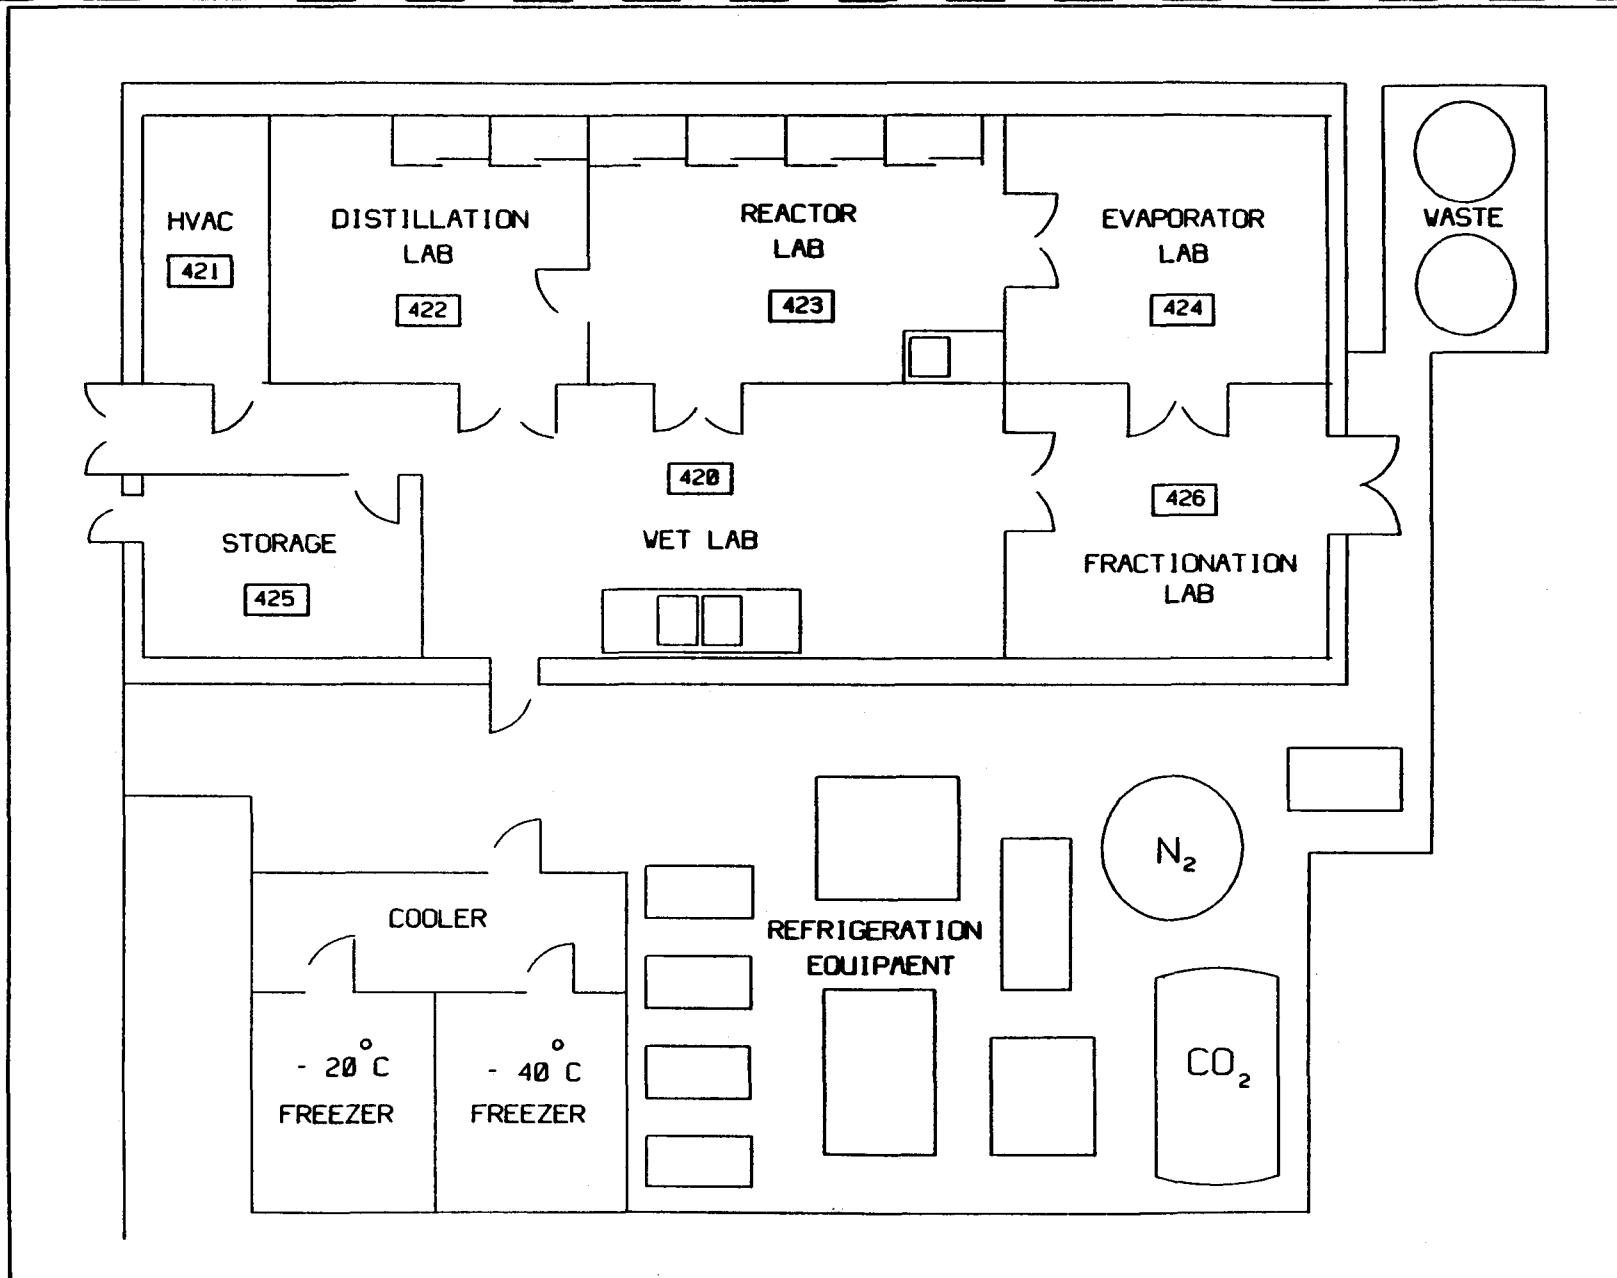

Fig. 2. Charleston Laboratory biomedical test materials production facility.
Floor plans of the production facility are shown in Figures 2 and 3. As shown in Figure 2, production of test materials takes place in five laboratories, two of which are explosion proof, the reactor (Rm. 423) and evaporator (Rm. 424) laboratories. The plant has a self-contained heating and air conditioning system and a modest amount of storage space. Outside, a combination walk-in refrigerator/freezer storage unit is available. Liquid nitrogen (N_2) is the source of the gaseous N_2 which is piped to all laboratories. Also located outside are two chillers that provide refrigerated coolant for all production equipment requiring it and the liquid carbon dioxide (CO_2) tank and associated compressor needed for the supercritical fluid CO_2 fractionator. Located at the rear of the facility, outside the evaporator laboratory, are two 2200-gal fiberglass tanks and (not illustrated in Fig. 2) a 5000-gal stainless steel tank for urea waste storage. Also not illustrated are a number of 8x20 ft and 8x40 ft land-sea cargo carriers that are used for storage of fish oil (during the winter months), alcohol, sodium, urea, and wastes.
- d. If the electric vapor traps of the vacuum deodorizer require cleaning, the switch on the air handlers in Rm 421 (HVAC, Fig. 2) should be placed in the <UNOCCUPIED> position to evacuate odors as quickly as as possible.